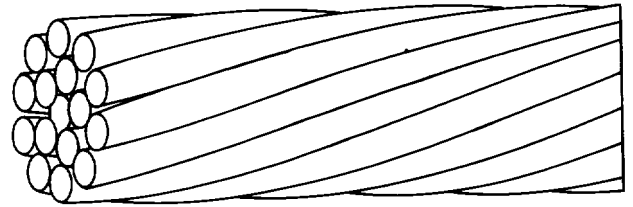

Figure 3. Bunch Stranding
(2) Bunch Stranding is composed of any number of wires of the same diameter twisted together in the same direction without regard to geometric arrangement of the individual strands. Used where low cost is an important factor (Figure 3).